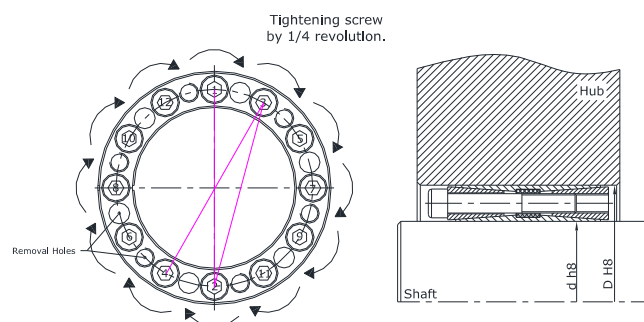

Fig. 1
- Once the axial position of locking assembly is fixed then tighten all screws one by one in diametrically opposed sequence by using torque wrench. (As mention in Fig. 1)